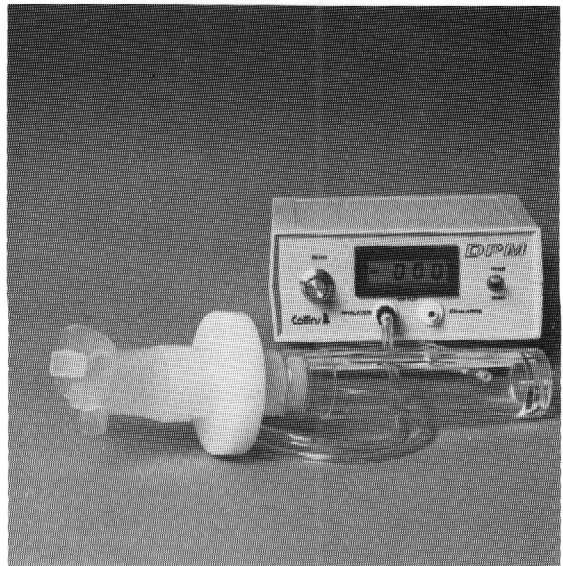

Figure 4. DPM Setup for Measurement of MIP
1. Have the mouth assembly connected to the INHALATION port, as shown in Figure 4.